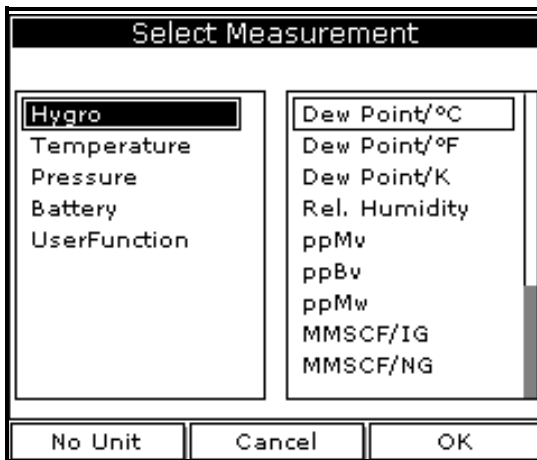

Figure 15: Select Measurement Window
2. Use the arrow keys to scroll to **Measurement** and press [ENTER]. The screen appears similar to Figure 15. The left column displays the five measurement types and the right column displays the measurement units.